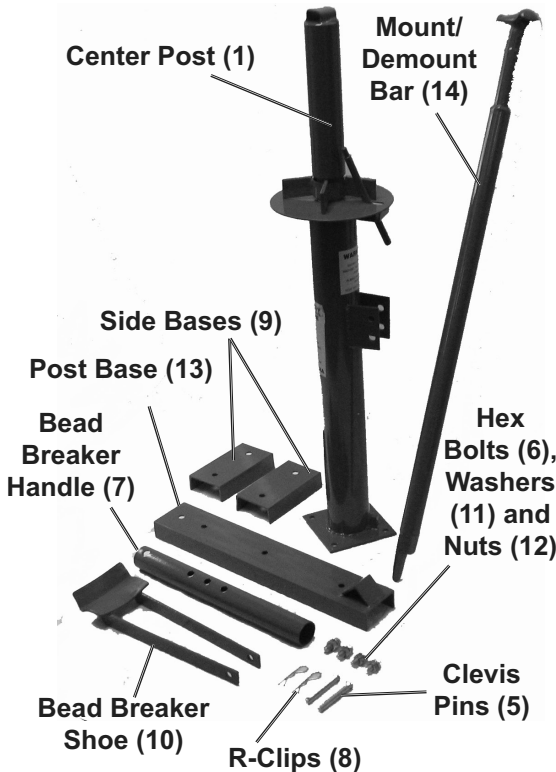

Figure 1
**NOTE:** Assembly of the Base units (9, 13) to the Center Post (1) will be easier if done on a worktable.
1. The Tire Changer will require some assembly after unpacking. See the assembly components in Figure 1, below.